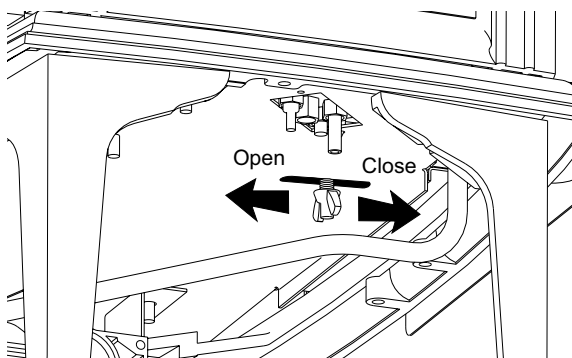

Figure 30. Loosen the wingnut to adjust the air shutter.
1. Reach under the right side of the stove and loosen the wingnut located closest to you. See fig. 30. Slide the wingnut stud forward to open the air shutter and back to provide less air. Make adjustments in small increments.